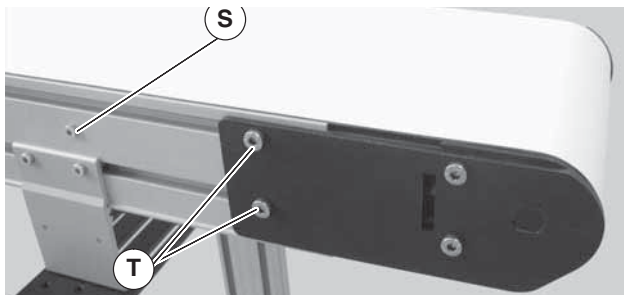

Figure 29
2. On the side of conveyor to be adjusted, loosen two (2) tail clamp screws (Figure 29, item T).